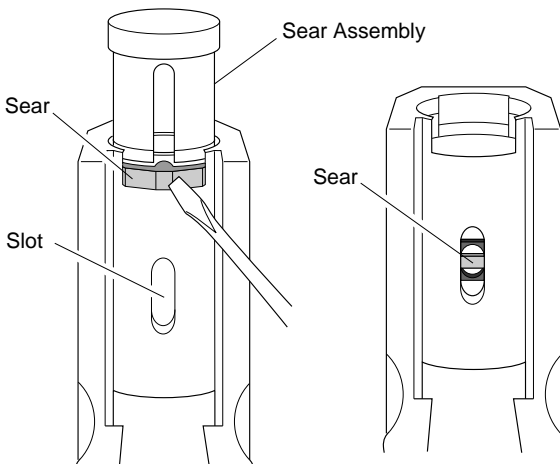

Figure 10 - Inserting Sear Assembly Into Cylinder As Viewed From Bottom Of Tool
1. Insert push pin into tool body (see item 12, page 17, for push pin location). Hole for push pin is located in cylinder at rear of tool. The hole for the push pin is located beside center hole in cylinder. Insert narrow end of pin first.
2. Insert sear assembly into cylinder at rear of tool body. Sear assembly consists of sear, spring, and sear holder (see items 21, 22, & 23, page 17). Insert sear assembly sear-end first (see Figure 10). Make sure sear is pointing towards bottom of tool. *Note:* Use screw driver to depress sear so sear assembly can pass into cylinder. Press sear assembly into cylinder until it stops. *Note:* Sear can be seen through slot in bottom of cylinder. Use screw driver to depress sear through slot. Move sear assembly further into cylinder until sear is located at center of slot.